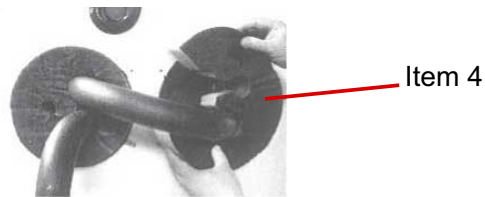

Fig. 3: Mounting the insulation
- 4) Attach the tank neck insulation (item 4, see Figure 3).